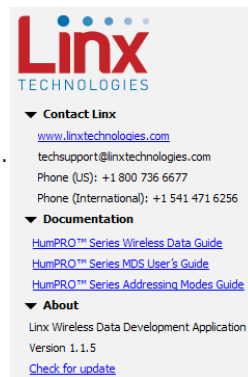

Figure 12: Additional Information
1. Clicking the Contact Linx, Documentation and About labels on the left side expands them to show additional information and links to the latest documentation. This is shown in Figure 12.